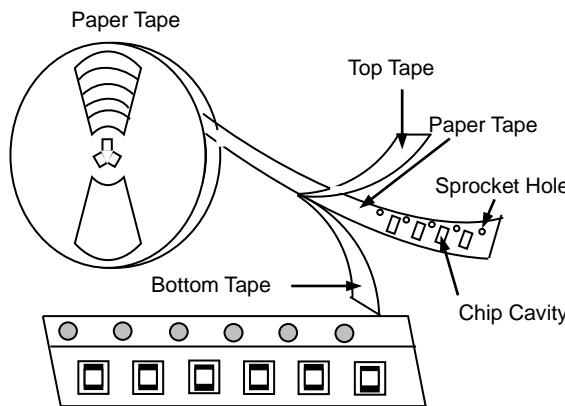

Fig. 6.1-1
- a. Tape carrier packaging are specified in attached figure **Fig. 6.1-1~3**